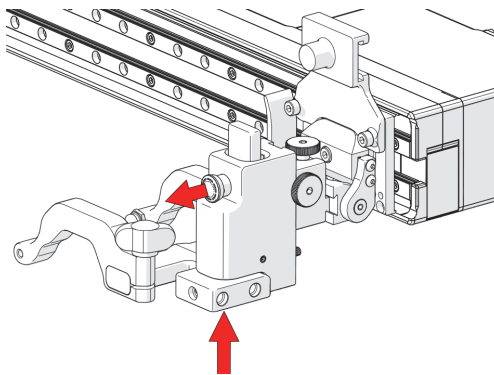

Figure 2-108 Press up and pull latch
1. Gently lift the heavy duty probe holder and simultaneously pull the latch (Figure 2-108 on page 117). This action will unlock the probe holder.